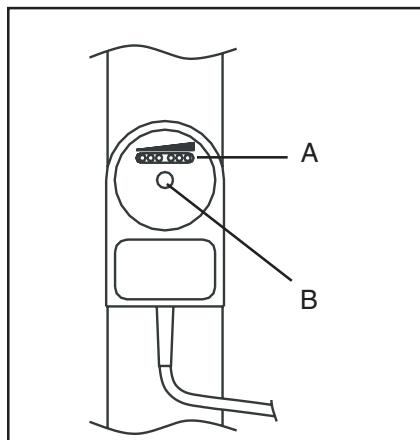

Fig. 15
**N.B.** Check that the flow switch is correctly fitted, see fig. 15.
Maintenance-free. See section 3 and fig. 15.
4. Screw nylon screw B off (fig. 15).
5. Check that the flow switch is turned the correct way (see fig. 15).